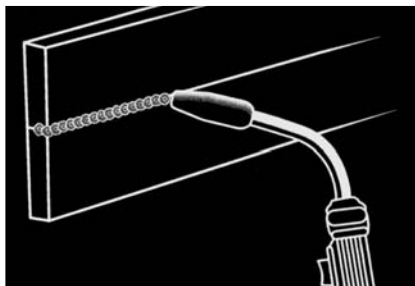

Figure 16. Horizontal Position
2. The HORIZONTAL POSITION (Figure 16) is next in difficulty level. It is performed very much the same as the flat weld except that angle B (see HOLDING THE TORCH - p.18) is such that the wire, and therefore the arc force, is directed more toward the metal above the weld joint. This is to help prevent the weld puddle from running downward while still allowing slow enough travel speed to achieve good penetration. A good starting point for angle B is about 30 degrees DOWN from being perpendicular to the work piece.